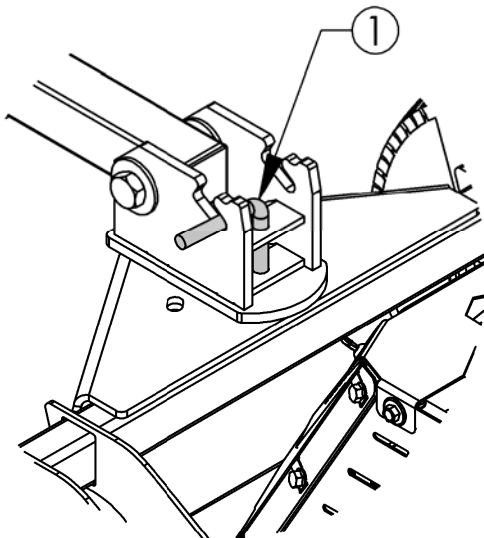

FIGURE 18.3
- Once the hitch bar is close to the desired offset location, slide the Pin handle back in the slot. To lock the Pin, simply rotate the hitch bar slightly until the Pin falls into place by itself. **Figure 18.3**